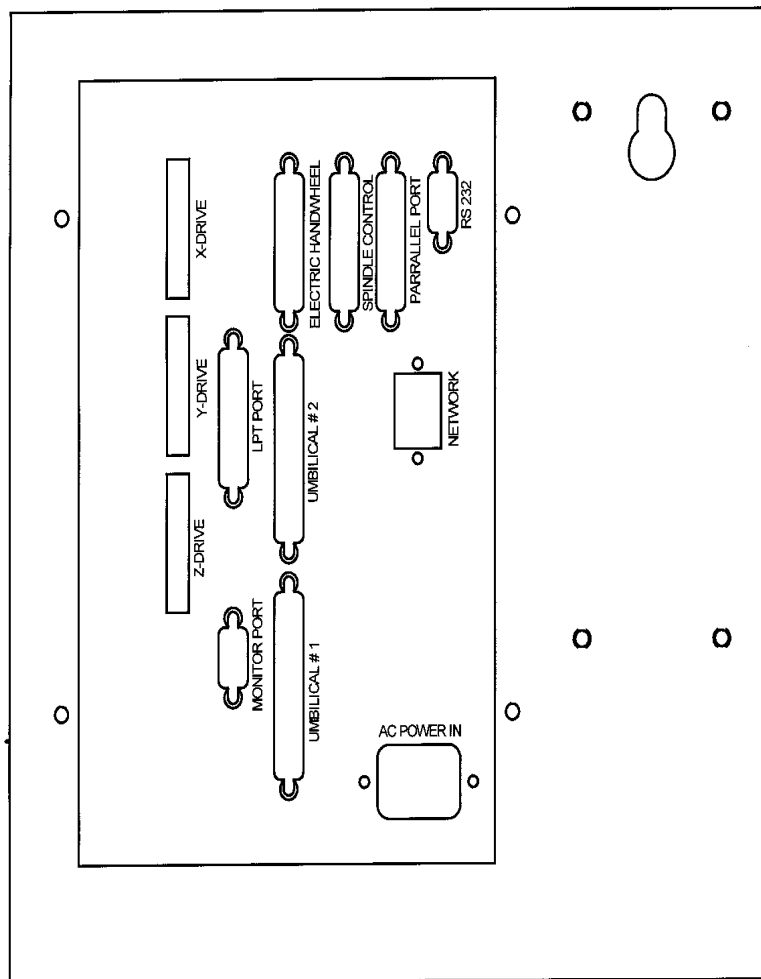

FIGURE 3.2 *The ProtoTRAK VM left side with connectors labeled*
3.2 Pendant Left Side *(See Figure 3.2 for a description of the left side panel of the display.)*